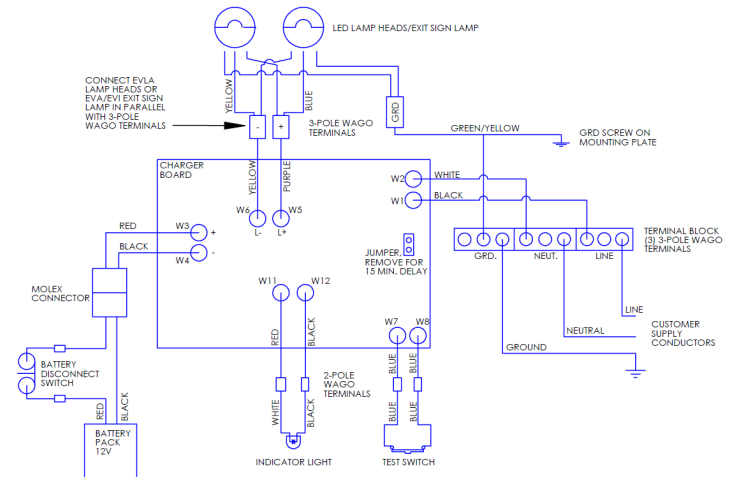

Figure 1. Wiring Diagram
8. Disconnect two (2) blue charger board test switch leads from 2-pole Wago terminal.
9. Remove four (4) 1/4-20 screws and lock washers that secure the mounting plate to the enclosure and remove old interior assembly. Retain mounting hardware.
10. Install the new interior assembly inside your existing enclosure using the same four (4) 1/4-20 screws and lock washers removed in Step 9. Torque screws to 60 in.-lbs.
14. Reconnect two (2) blue charger board test switch leads to 2-pole Wago terminal.
18. Verify all wiring connections are correct per the wiring diagram (see Figure 1).